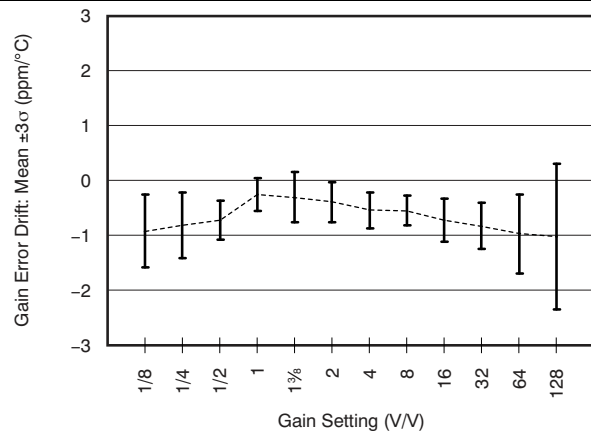

Figure 11. Gain-Error Drift Distribution vs Gain Setting (Mean With  $\pm 3\sigma$ )
(5) Gains smaller than  $\frac{1}{2}$  are measured with smaller output swing.
(6) See Figure 11 for typical gain error drift of various gain settings.
(7) Only G = 1 is production tested.